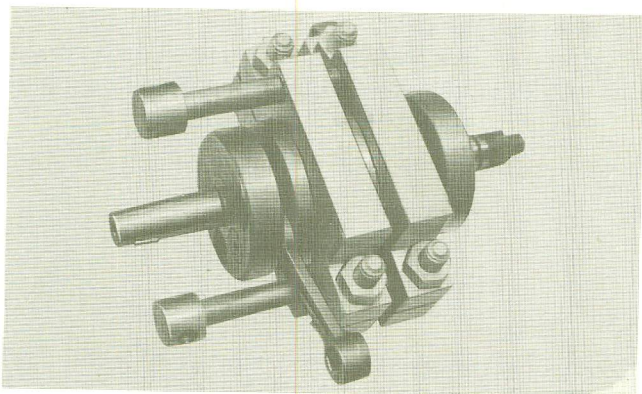

Fig. 3-131
- Fig. 3-131 shows the tools installed on the crankshaft assembly.